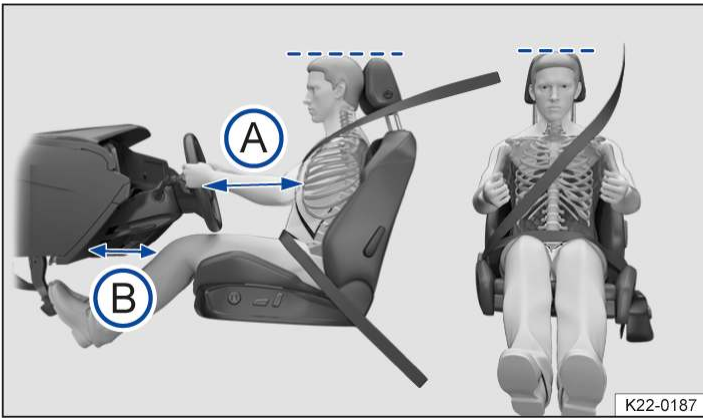

Fig. 1 Correct distance between the driver and the steering wheel, correct seat belt routing and correct head restraint adjustment (illustration).
- Adjust the head restraint so that its upper edge is at the same height as the top of the head, but not lower than eye level. Position the back of your head as close to the head restraint as possible at all times → *Fig. 1*.
- Adjust the driver seat by moving it forwards or backwards so that you are able to press the pedals to the floor with your knees still slightly bent and so that the distance from the dash panel to your knees is at least 10 cm (around 4 inches) → *Fig. 1* (B).